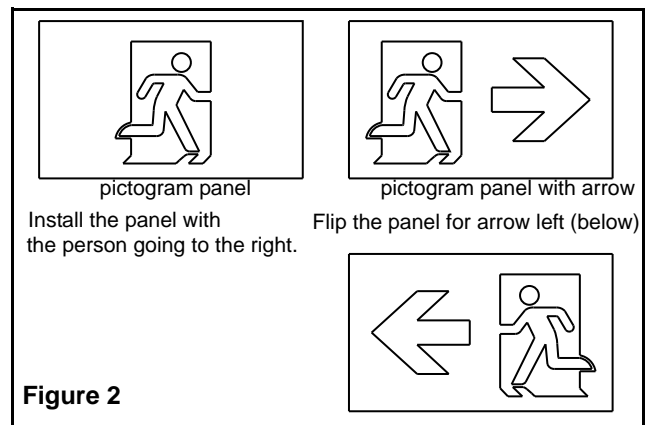

Figure 2
4. Install the appropriate pictogram panel into the faceplate by inserting the top of the panel into the groove of the faceplate then insert the bottom of the panel into the bottom groove of the faceplate (see Figure 2).